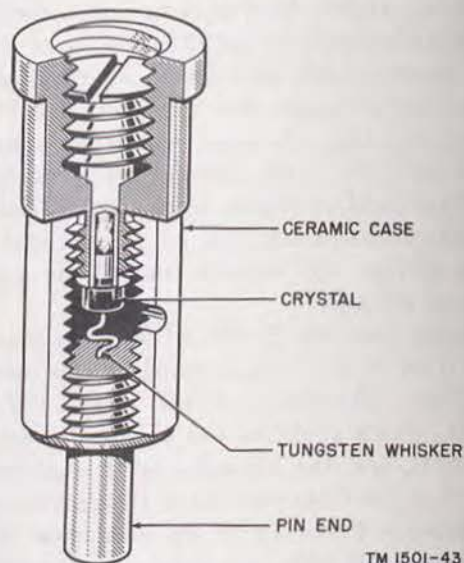

Figure 41. Crystal diode 1N23B, construction.
- (1) Signal crystal CR201 is a small silicon crystal in contact with a sharply pointed flexible tungsten whisker (fig. 41). The entire unit is sealed and mounted horizontally inside the signal crystal cavity of the mixer. The upper end of the crystal is grounded to the cavity; the lower end plugs into a coaxial connector.